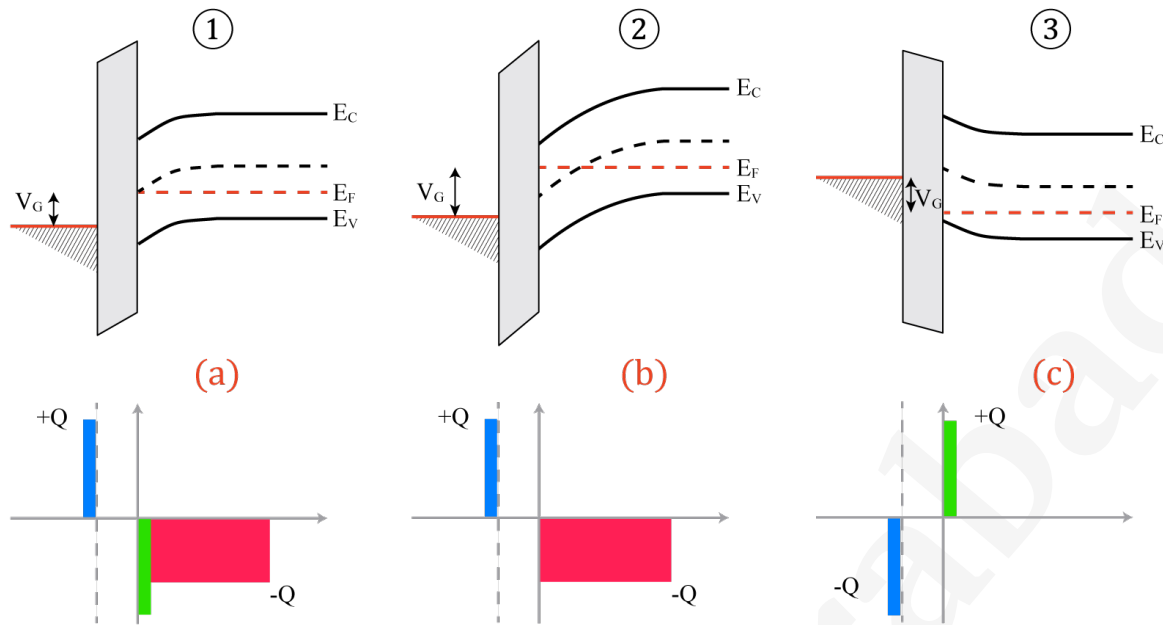

Figure 2: Energy band and charge block diagrams
7. (2 marks) Match the energy band diagrams with the corresponding charge block diagrams shown in figure 2 considering ideal MOS structure. Also state the biasing condition in each of the case.